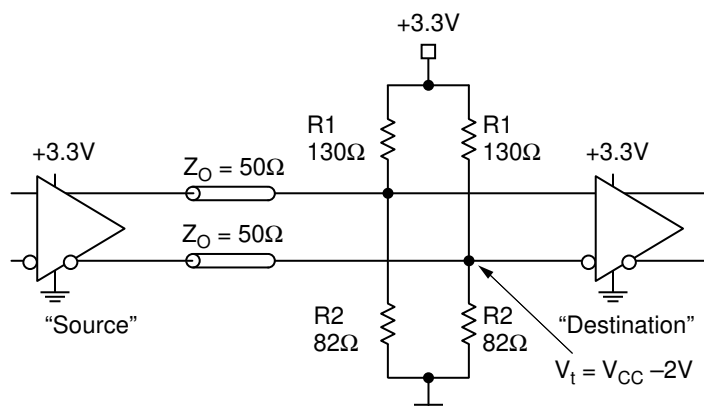

Figure 5. PECL Parallel Termination Thevenin Equivalent (Note 1)
- 100Ω termination across the output pair is NOT recommended for LVPECL. See “Output Termination” section, Figures 5 to 7.